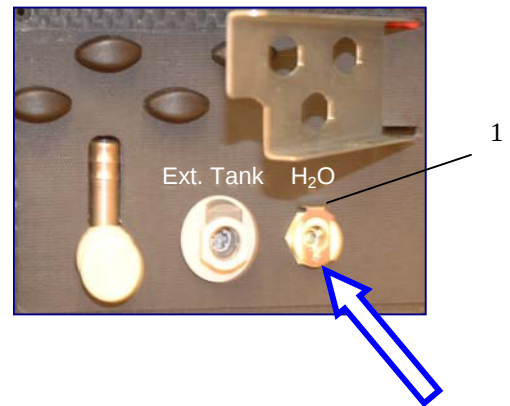

Fig. 12
- Place the open end of the attached drain hose into the container and connect the connecting piece on the connection **H₂O** (fig. 12). Firmly press it until it locks.
- Unlock the drain hose by pressing the metal piece (fig. 12.) on the connection and pull it off.